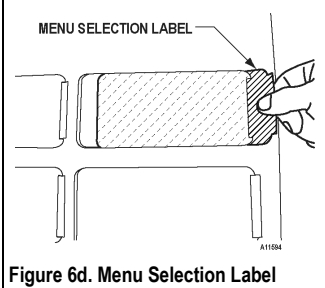

Figure 6d. Menu Selection Label
5. Locate the menu selection label from behind the Top Sign Front. See **Figure 6d**. Carefully slide the menu selection label out of the pocket and slowly pull on the exposed tab.